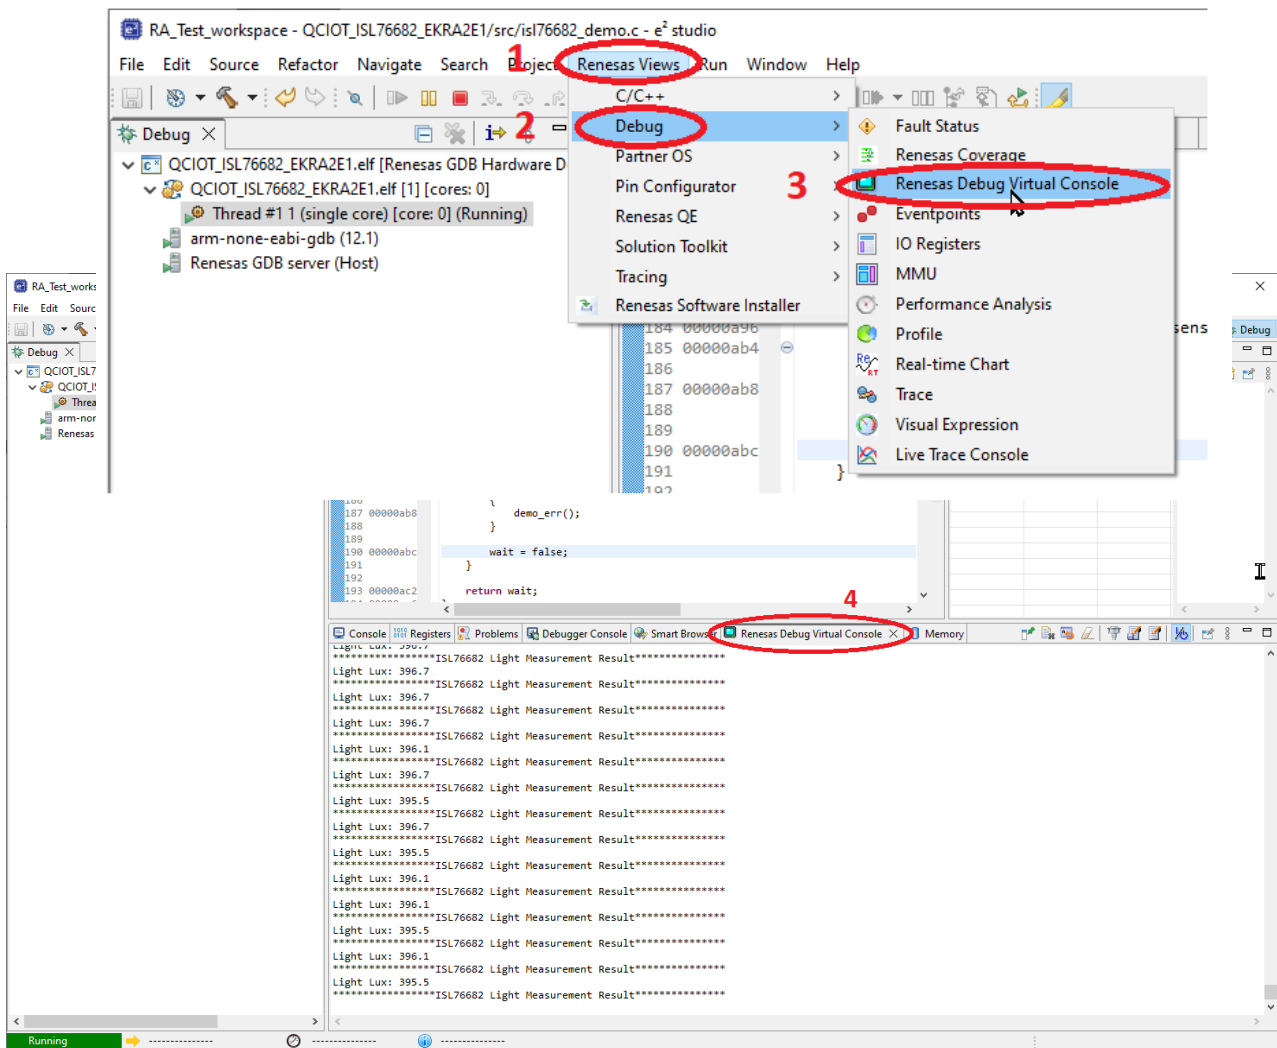

Figure 19. Renesas Virtual Debug Console
11. To view the measurements results, open the Renesas Debug Virtual Console as shown in Figure 19.